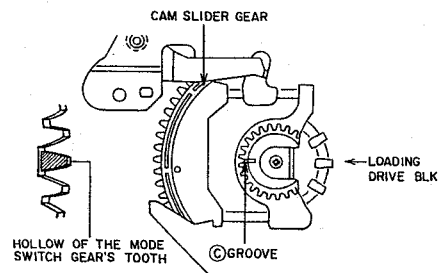

Fig. 3-15
- 2) Attach the MODE SELECT SWITCH to the LOADING DRIVE BLK and align the hollow of the gear's tooth (reverse side of the Ⓒ mark) with the Ⓒ groove of the CAM SLIDER GEAR as shown in Fig. 3-15.